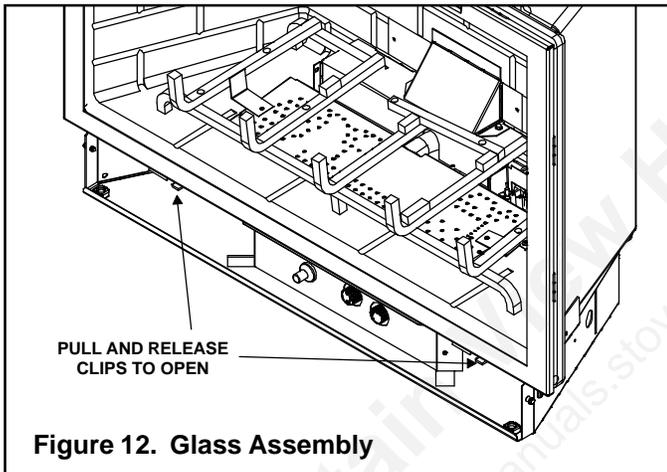

Figure 12. Glass Assembly
- Remove the glass door from the unit (see Figure 12).